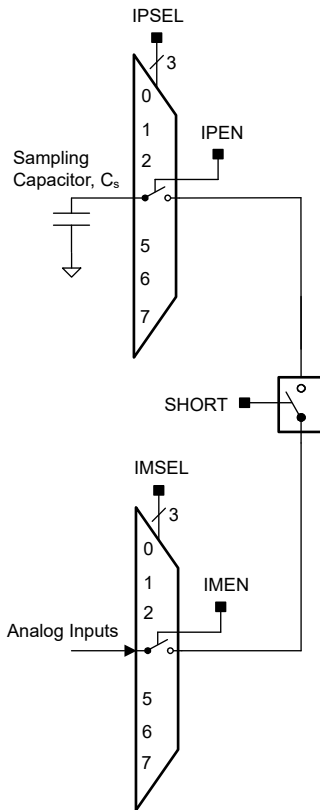

Figure 6-7. Comparator Short Switch
As shown in Figure 6-7, the required sampling time is proportional to the size of the sampling capacitor (C_S), the resistance of the input switches in series with the short switch (R), and the resistance of the external source (R_S). The sampling capacitor C_S must be greater than 100pF. The time constant, τ , to charge the sampling capacitor C_S can be calculated with Equation 2